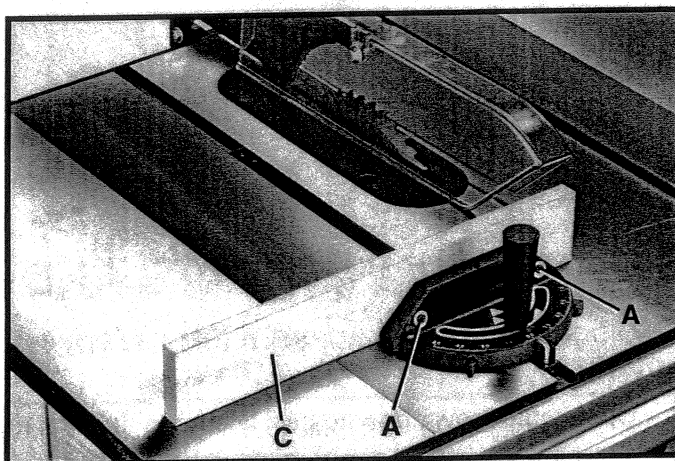

Fig. 80
For added safety and convenience the miter gage can be fitted with an auxiliary wood-facing (C), as shown in Fig. 80, that should be at least 1 inch higher than the maximum depth of cut, and should extend out 12 inches or more to one side or the other depending on which miter gage slot is being used. This auxiliary wood-facing (C) can be fastened to the front of the miter gage by using two wood screws (A) through the holes provided in the miter gage body and into the wood-facing.